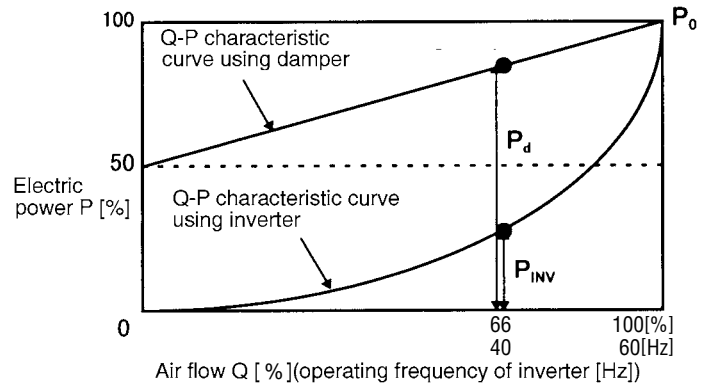

Fig.1 Q-P characteristic curve
- In accordance with general output characteristics (Q-P curve) in Fig.1